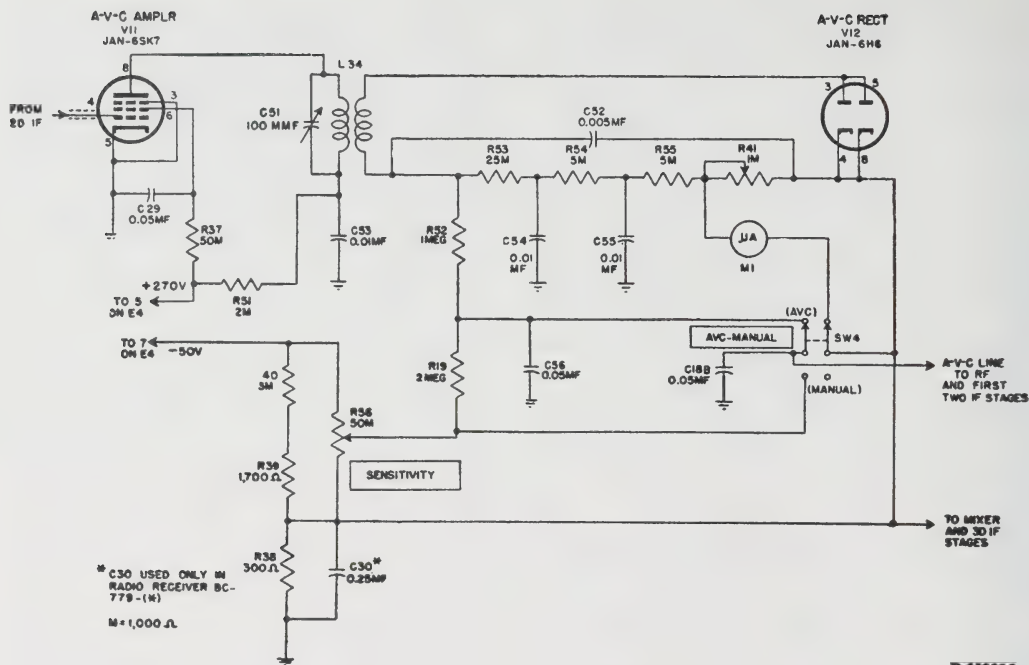

Figure 31. Radio Receiver BC-779-B, functional diagram of a-v-c stages.
a. *MIXER TUBE JAN-6L7.* For simplicity, capacitor C71, main tuning ganged capacitor C1C, and band spread ganged capacitor C2C are represented as a single variable capacitor C across the inductance trimmed secondary of r-f transformer L18. Signal voltages across C are applied through 600-mmF capacitor C11 to signal grid G1 (top cap) of pentagrid mixer Tube JAN-6L7. Fixed bias from the voltage divider (fig. 31) is applied through a filter circuit (10,000-ohm resistor R10 and 0.01-mf capacitor C12) and 500,000-ohm grid resistor R9 to the signal grid. Screen grid G2 and G4 (pin 4) forms a screen about injection grid G3 (pin 5), and the h-f oscillator output is coupled through 95-mmF capacitor C13 to the injection grid. Since the screen grid shields the signal and injection grids from one another, the tube electron stream is modulated independently by the r-f and oscillator signals. Heterodyne action produces sum and difference frequencies in the mixer output. The primary of transformer T1 is tuned by C21 to the 465-kc difference frequency to which the i-f amplifier is also tuned. The i-f voltage across the secondary winding of transformer T1 is applied to the crystal filter,
65. A-V-C Circuit (fig. 31)
and to the control grid (pin 4) of the a-v-c amplifier stage V11 (fig. 31). V7 and V11 have a common grid circuit, including fixed bias. The suppressor and cathode of V11 are grounded; screen voltage is applied to pin 6 through 50,000-ohm series-dropping resistor R37; and the screen is bypassed by 0.05-mf capacitor C29. Plate (pin 8) voltage is applied through 2,000-ohm filter resistor R51 and the primary of transformer L34. The primary of L34 is tuned to 465 kc by 100-mmF capacitor C51, and capacitor C53 (0.01-mf) bypasses high frequencies to ground. The transformer secondary is untuned.